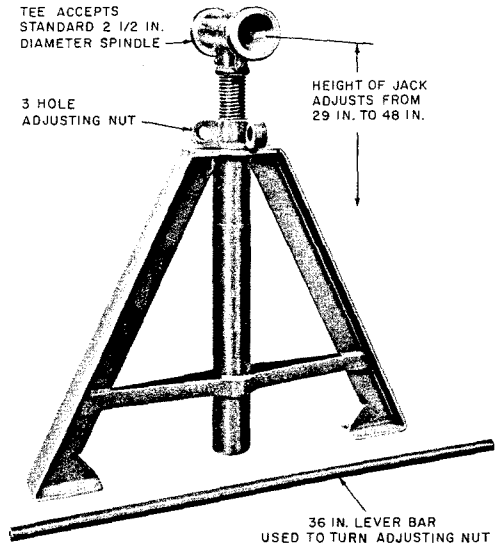

Fig. 1 — B Cable Reel Jack
1.02 The B Cable Reel Jack (Fig. 1) differs from the earlier model in that provisions for strand reel hangers are no longer provided. This change does not affect the use of the earlier jack when used to support cable reels.